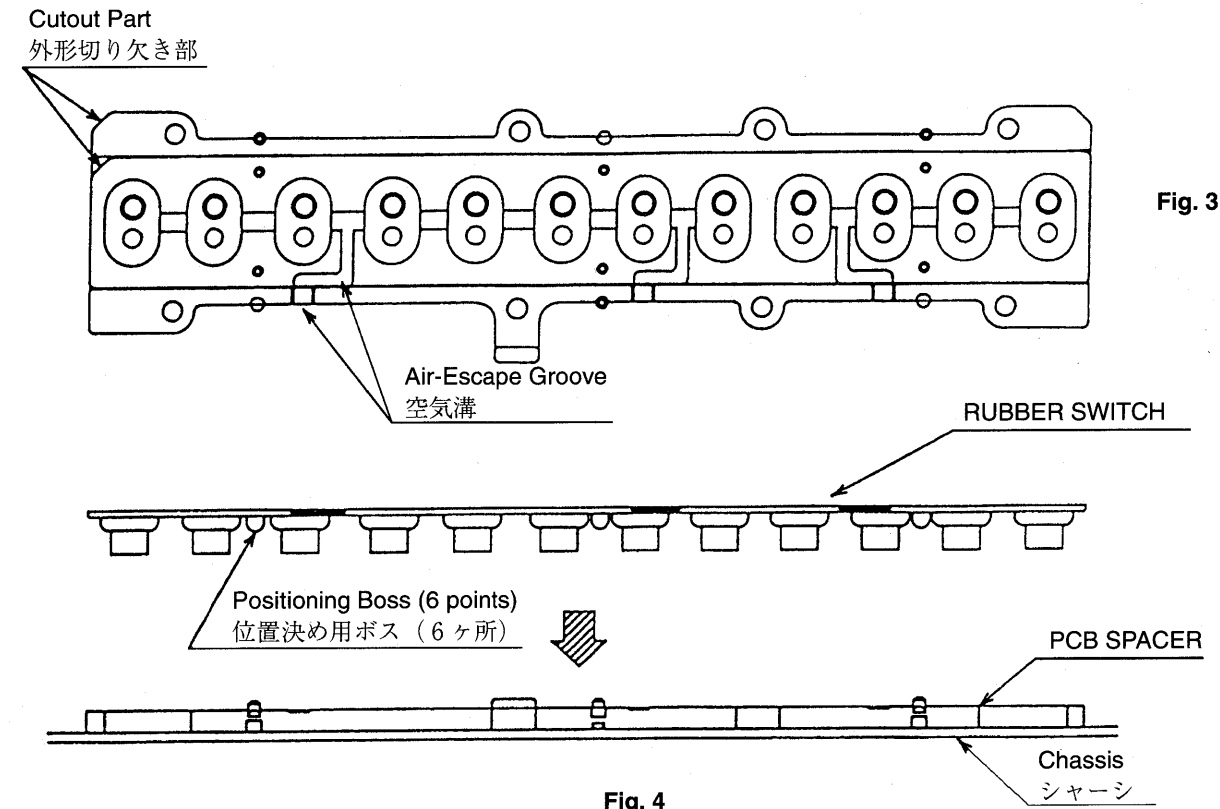

Fig. 4
2) Next, aligning the positioning bosses of RUBBER SWITCH with the circular holes of SPACER, and as done for the spacer, place one RUBBER SWITCH 8PL, four RUBBER SWITCH 12PL, one RUBBER SWITCH 13PL and one RUBBER SWITCH in order, starting on the lower tone side. In this procedure, make sure that RUBBER SWITCH and SPACER are positioned with their cutout parts and air-escape grooves aligned, respectively. (Refer to fig. 3 and fig. 4.)
2) 次に、SPACERの丸穴部にRUBBER SWITCHのボスを位置決めして、SPACERと同様に低音側より順にRUBBER SWITCH 8PL、RUBBER SWITCH 12Pを4個、RUBBER SWITCH 13P、RUBBER SWITCH 7PHと置いていきます。この際、RUBBER SWITCHとSPACERの外形切り欠き部、及び空気溝の位置が合うように注意してください。（fig. 3 fig. 4参照のこと）